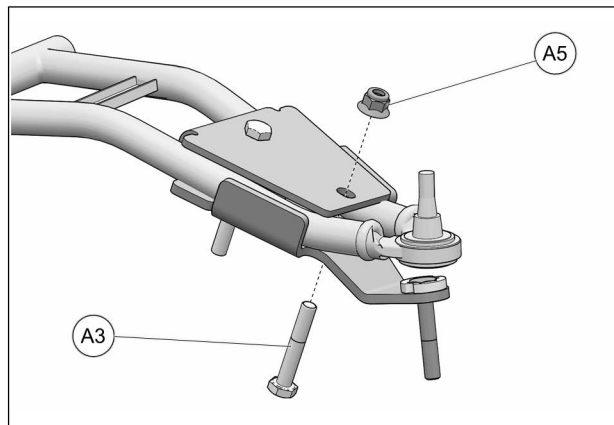

Fig. 21
7. Insert the M10x60 mm bolt (**A3**) through the bottom as shown below and secure the two parts together with the M10 nut (**A5**) provided. Tighten assembly to 50 Nm [37 lb•ft] of torque. See Fig. 21